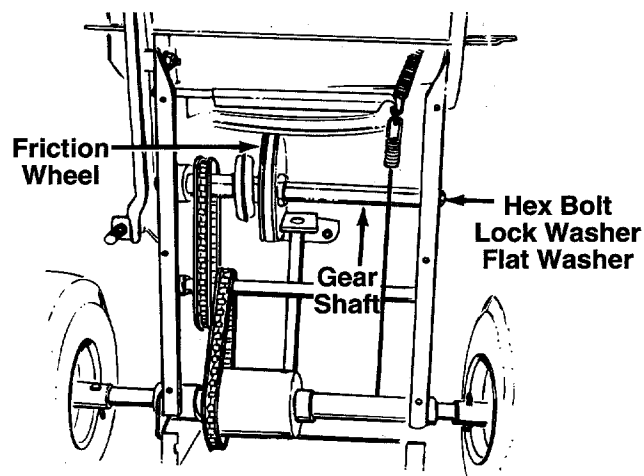

FIGURE 18.
4. Remove the gear shaft from the unit by removing the hex bolts, lock washers and flat washers from each side of the frame. See figure 18. Hold the friction wheel assembly, and slide the gear shaft out of the unit toward the right side.